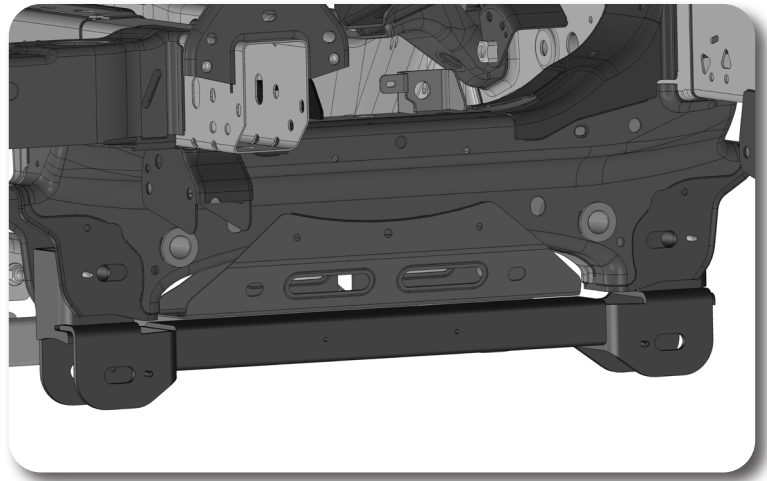

Figure 26
36. Install the front cross member in the control arm pockets with the provided shorter 18mm bolt, prevailing torque nuts, and washers Run bolts from front to rear Fig. 26. Leave hardware loose.